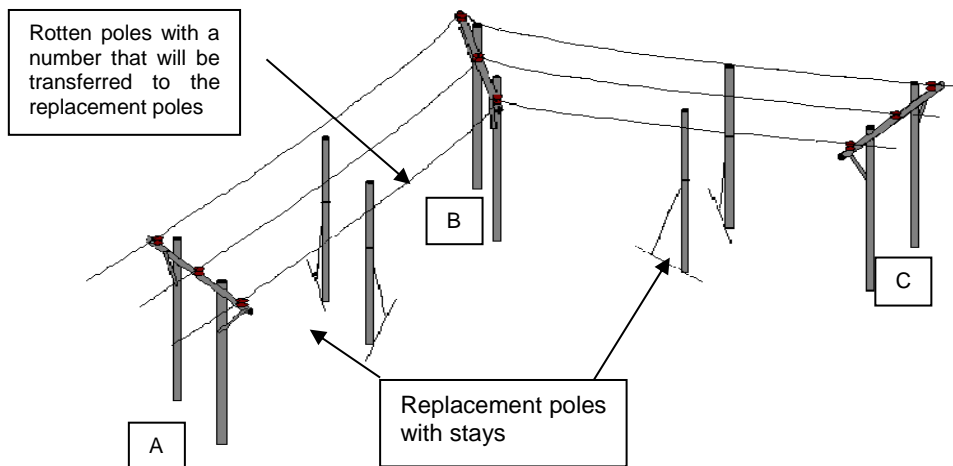

Figure 9: Planting H Pole Strain Structure Replacement Poles
- a) Manually erect replacement poles, plumb/square and compact poles (see figure 9).